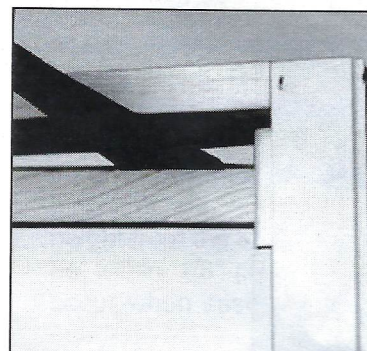

Figure 4
5. Remove the head jamb parting stop with a pry bar. See figure 4.